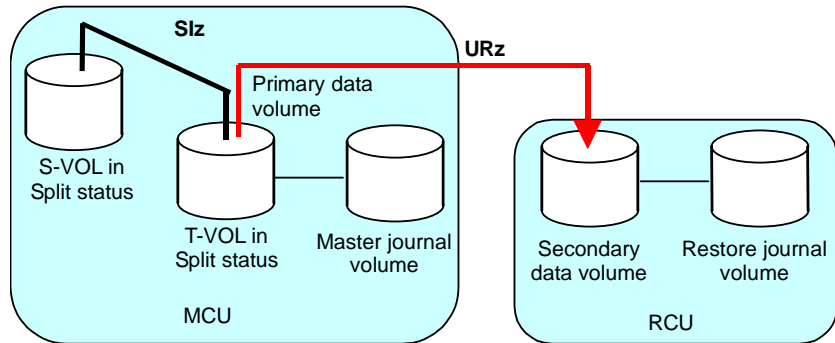

Figure 3-20 Restoring a Siz S-VOL - Step 9
9. Execute the Business Continuity Manager **YKRESYNC** command on the URz pair to resynchronize the pair (see Figure 3-20).